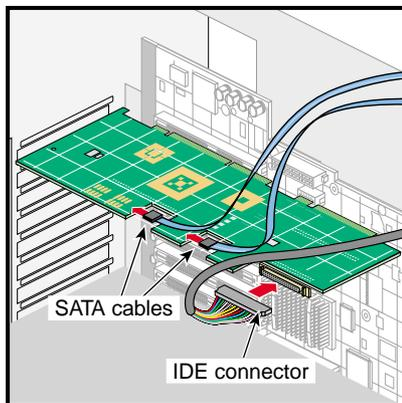

Figure 3-21 Connecting the Base I/O SATA and IDE Cables
5. Connect the SATA and IDE cables to the base I/O board. To connect a cable, align the cable connector with the socket on the I/O board and press down, (see Figure 3-21).